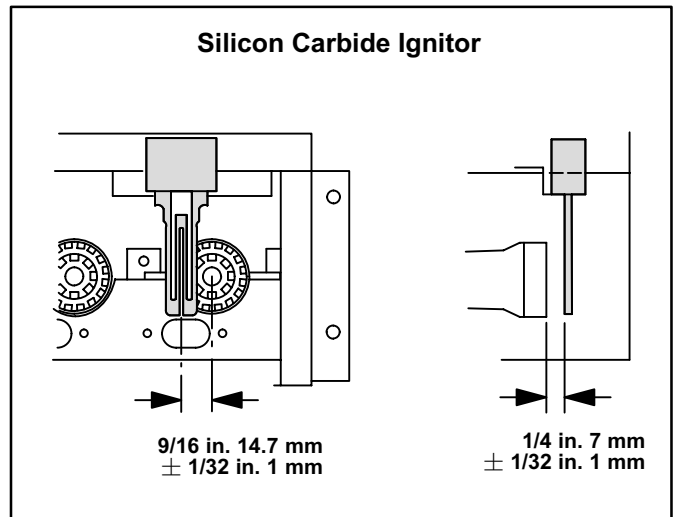

FIGURE 7
All F8AUH model units are equipped with an integrated ignition blower control (50A55), which controls ignition, safety circuits, blower operation, fan off timing and allows for thermostat connection and troubleshooting. The system consists of ignition control board (figure 6 with control terminal designations in table 4) and a silicon carbide ignitor (figure 7). The board features two LED lights for troubleshooting and two accessory terminals rated at (4) four amps. See table 3 for troubleshooting diagnostic codes. Table 1 and 2 show jack plug terminal designations. Units equipped with this control board board can be used with either electronic or electro-mechanical thermostats without modification. Each time power is applied to the furnace, the control board board performs a selfcheck including energizing the combustion air blower for a period of 1 second.